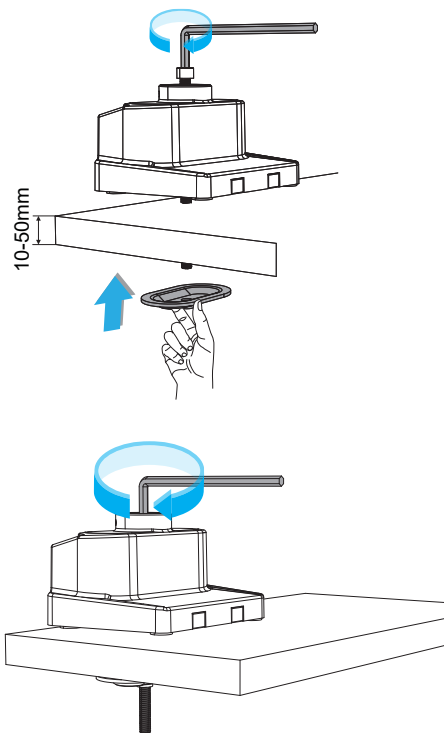

Figure 5
3. Insert the other side of the **Grommet Clamping Screw** through the **Grommet Hole** and into the **Grommet Clamping Plate**. Use the **6mm Hex Key** to adjust the **Hex Screw** and secure the **Desk Clamp** in place. (Figure 5)